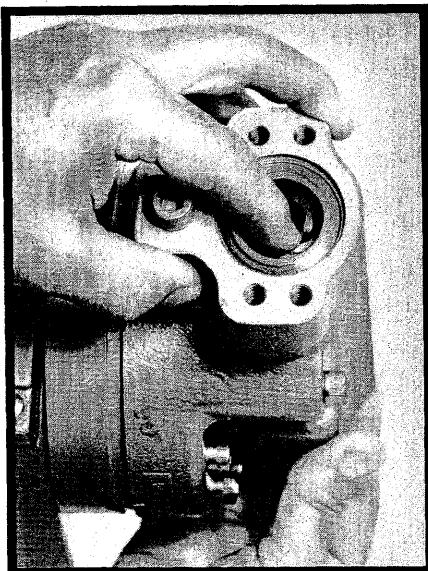

FIGURE 11.
5. At this stage, with a slight push at the bottom flange of the HYDRATUBE, guide the nose of the tube to the center and out the top hole in the housing. (Figure 11).